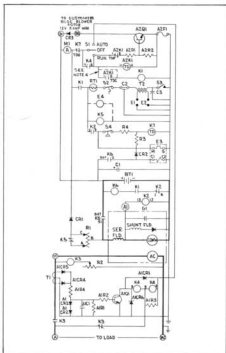

FIGURE 5-11A. MCKK CONTROL-O-MATIC SCHEMATIC (SPEC C)
- If necessary to test engine cranking circuit, temporarily bypass bilge-blower control relay A²K¹ by moving lead at terminal 1 on A²K¹ to terminal 3, Figure 5-11A. This lead comes from S¹ run terminal. If unit cranks with the bilge-blower control disabled, the problem is in the bilge-blower control circuit.